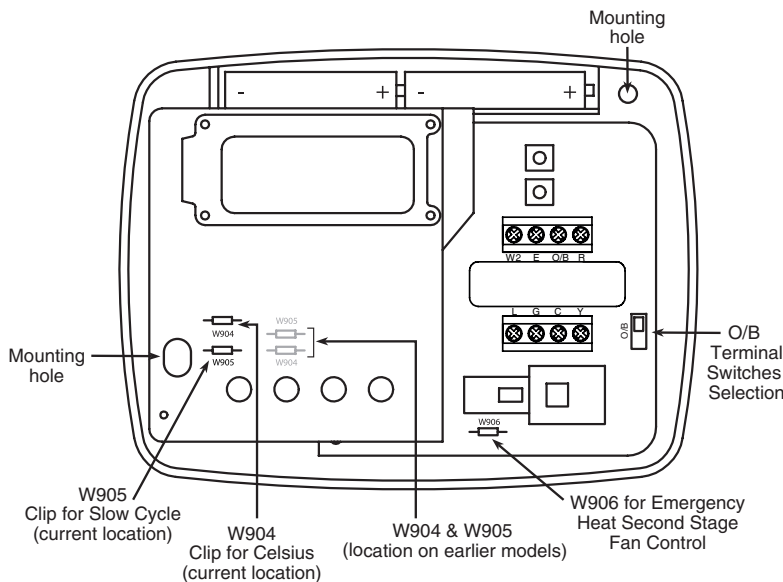

Figure 1. Thermostat base
If your emergency or auxiliary system will energize the blower, then jumper W906 on the thermostat base must be cut (see fig. 1).
5. Fasten base loosely to wall, as shown in fig. 1, using two mounting screws. Place a level against bottom of base, adjust until level, and then tighten screws. (Leveling is for appearance only and will not affect thermostat operation.) If you are using existing mounting holes, or if holes drilled are too large and do not allow you to tighten base snugly, use plastic screw anchors to secure subbase.
This thermostat does not require batteries to operate. The 2 "AAA" alkaline batteries are for the thermostat to remember the configuration menu selections if AC voltage is lost. If the display shows **BATT** or **CHANGE**  when AC power is not present, the batteries are low and should be replaced with fresh "AAA" Energizer® alkaline batteries. For best results, replace all batteries with new premium brand alkaline batteries such as Duracell® or Energizer®. To replace the batteries, install the batteries along the top of the base (see fig. 1). The batteries must be installed with the positive (+) ends to the right.